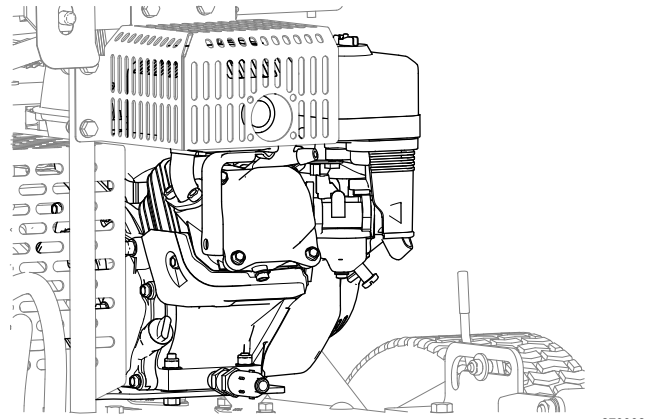

**Figure 41**
3. Clean dirt and debris from the area around the hydraulic motor (Figure 41).